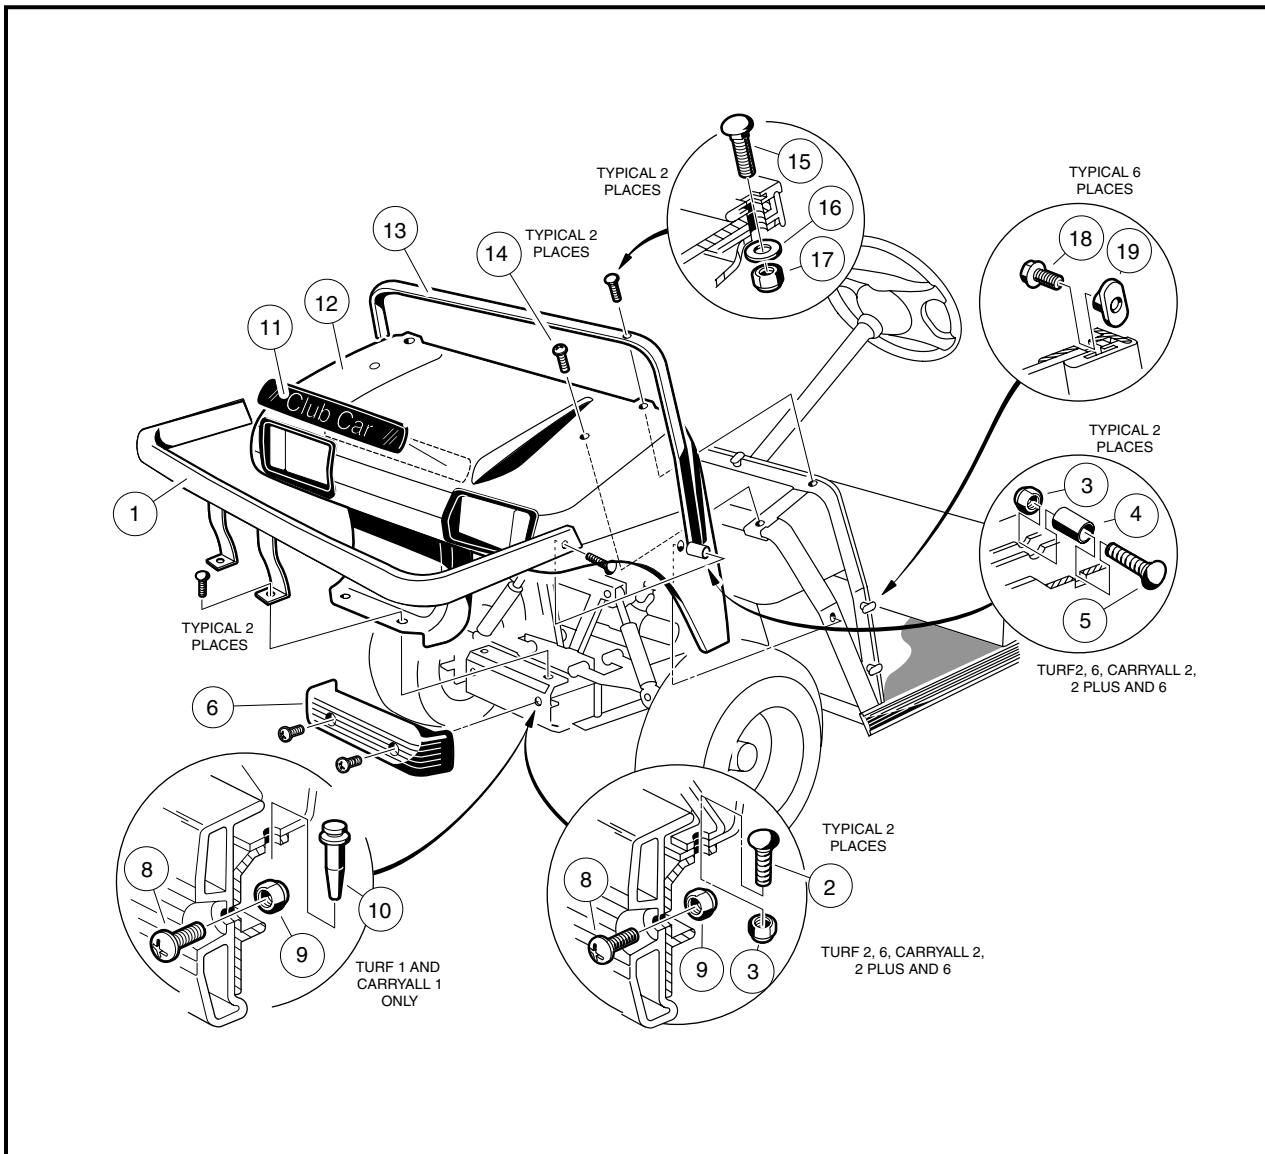

Figure 4-1 Front Body Assembly
1. Remove screws (8) and locknuts (9) and lift front bumper (6) from vehicle frame (**Figure 4-1, Page 4-4**).
- 1.1. **Turf 1 and Carryall 1 vehicles:** Remove blind rivets (10) (**Figure 4-1, Page 4-4**).
2. Vehicles equipped with a heavy-duty front bumper (1) (**Figure 4-1, Page 4-4**):
- 2.1. Remove the two carriage bolts (5), locknuts (3) and spacers (4) from the heavy-duty bumper mounting positions located on both sides of the front body (**Figure 4-1, Page 4-4**).
- 2.2. Remove carriage bolts (2) and locknuts (3) from the heavy-duty bumper support braces and remove bumper (**Figure 4-1, Page 4-4**).
3. Remove carriage bolts (15), locknuts (17) and washers (16) from front body trim. Remove screws (14) from top of front body (**Figure 4-1, Page 4-4**).
4. Loosen (do not remove) screws (18) holding front body trim against front body (**Figure 4-1, Page 4-4**).
6. Pull front body (12) from under trim (13) and remove from vehicle (**Figure 4-1, Page 4-4**).
1. Install front body (12) under trim (13), align holes and finger tighten screws (14) holding front body against frame (**Figure 4-1, Page 4-4**).
2. Install carriage bolts (15), washers (16) and locknuts (17) onto front body trim. Tighten bolts to 11 ft-lb (14.9 N-m). Tighten screws (14) to 20 in-lb (2.3 N-m) (**Figure 4-1, Page 4-4**).
- IF INSTALLING A NEW FRONT BODY, TWO 5/16 INCH HOLES MUST BE DRILLED AFTER THE BODY HAS BEEN PLACED ON THE VEHICLE. USE THE BODY TRIM (13) AS A GUIDE FOR DRILLING THE HOLES (**FIGURE 4-1, PAGE 4-4**).
3. Tighten screws (18) holding front body trim against front body to 17 in-lb (1.9 N·m) (**Figure 4-1, Page 4-4**).
- 5.1. Install two carriage bolts (2) and locknuts (3) from the heavy-duty front bumper support braces and install bumper (1). Tighten bolts to 65 in-lb (7.3 N·m) (**Figure 4-1, Page 4-4**).
- 5.2. Install two carriage bolts (5), spacers (4), and locknuts (3) into heavy-duty bumper mounting positions located on sides of front body (12). Tighten bolts to 65 in-lb (7.3 N·m) (**Figure 4-1, Page 4-4**).
6. For Turf 1 and Carryall 1 vehicles, install two push type blind rivets (10) that secure lower front body to frame (**Figure 4-1, Page 4-4**),
7. Install front bumper onto vehicle and install screws (8) and locknuts (9). Tighten to 65 in-lb (7.3 N·m) (**Figure 4-1, Page 4-4**).